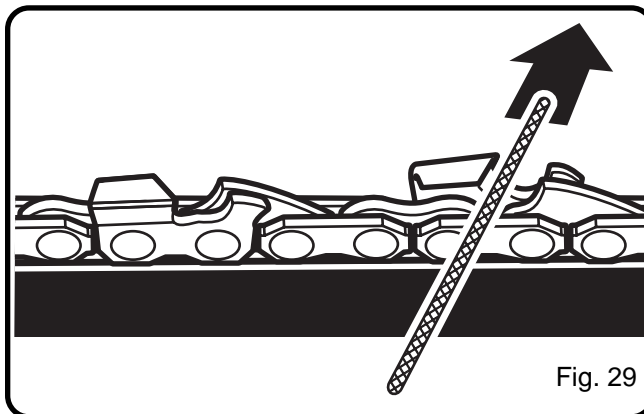

Fig. 29
- Using light but firm pressure, stroke towards the front corner of the tooth. Lift file away from the steel on each return stroke. See Figure 29.